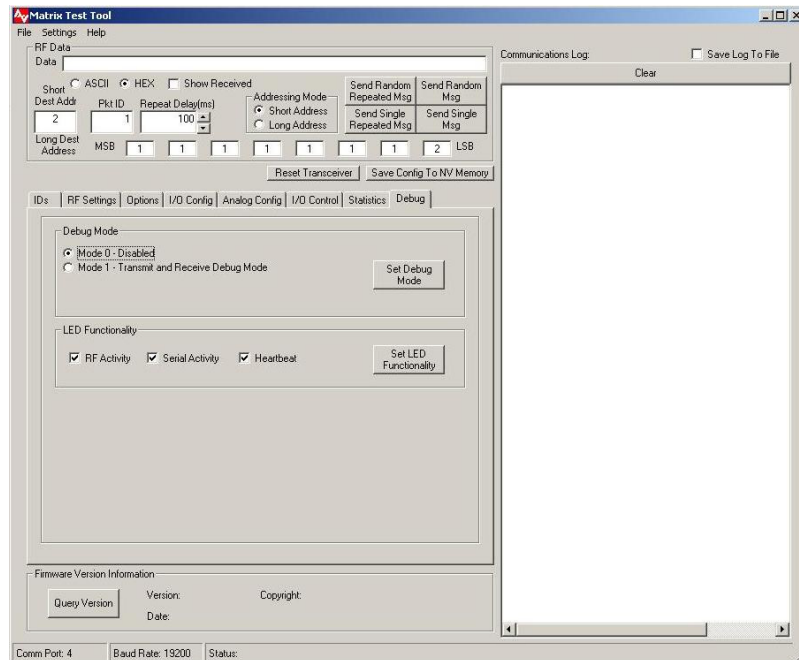

Figure 4-9. Debug Settings Screen
4.2.11 Debug Settings (See Figure 4-9)
The Debug Settings page can be accessed by clicking the *Debug* tab in the software, and is shown in Figure 4-9. The Debug page can be used to enable debug signals and internal LED functionality.